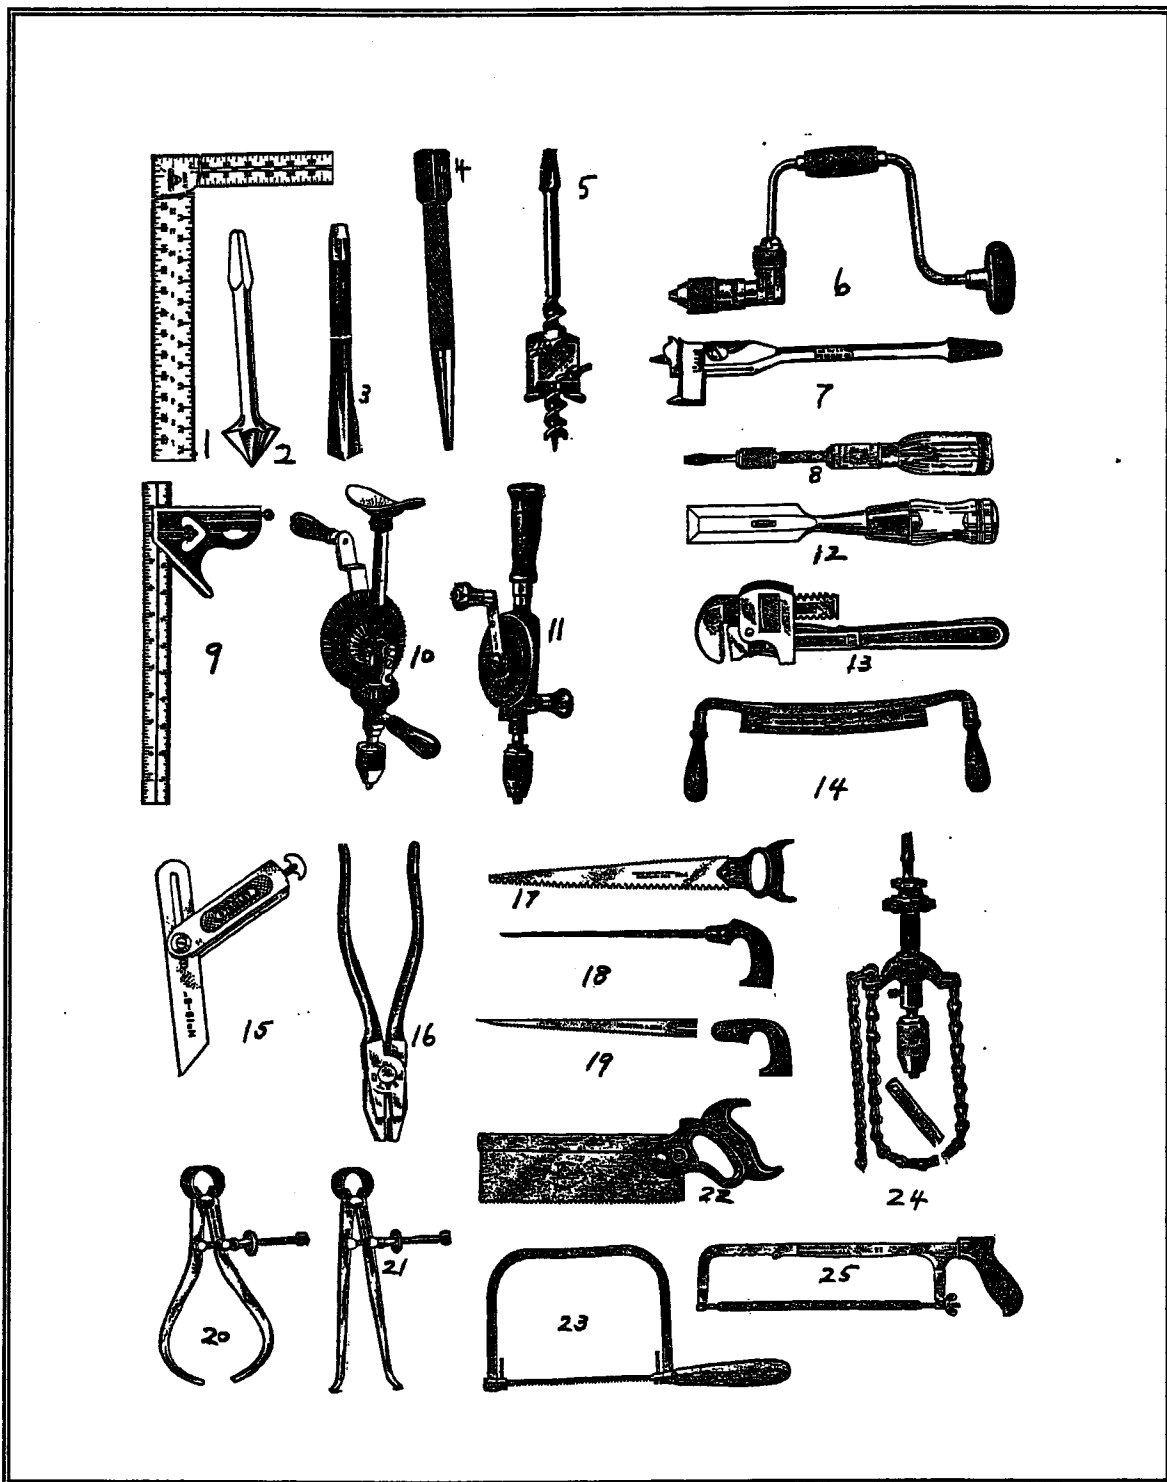

Figure 1. Common hand tools for an agricultural workshop.
- b) **Figure 1** (attached) contains a list of common hand tools found on farms and in agricultural businesses.